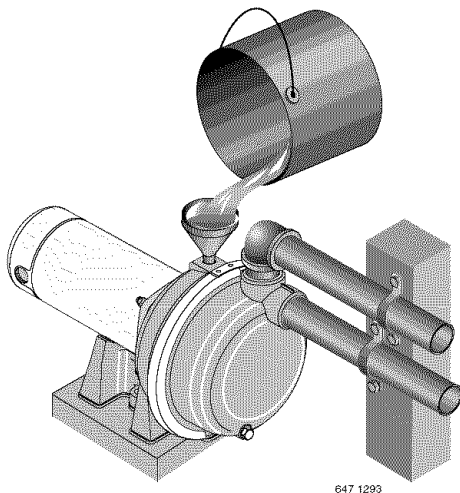

Figure 6: Fill Pump Before Starting
- Step 3. Fill pump and suction pipe with water (Figure 6).